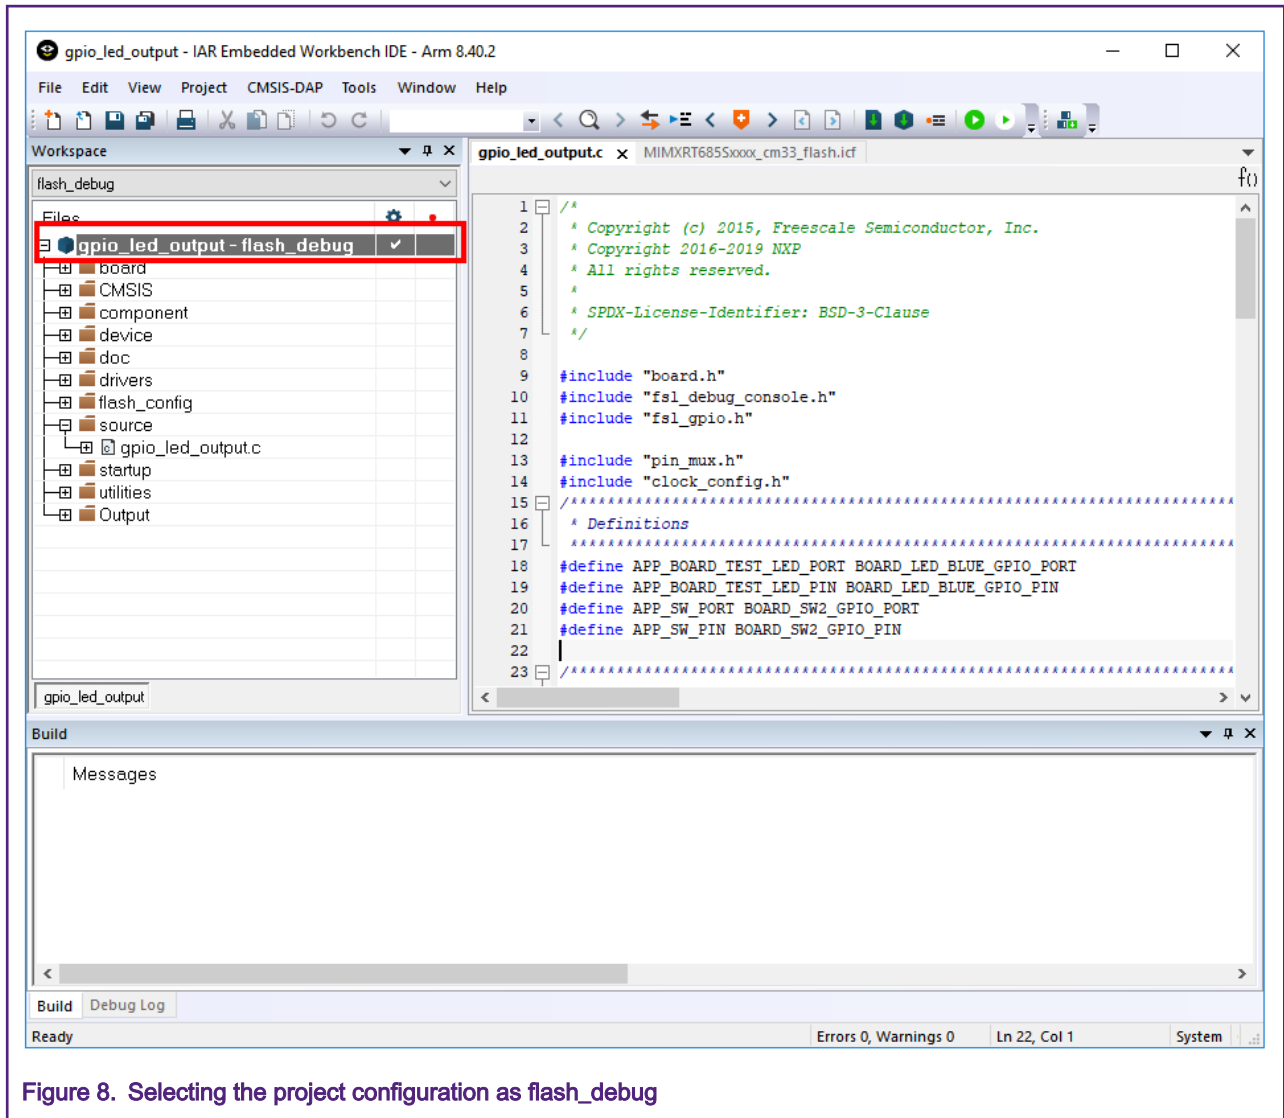

Figure 8. Selecting the project configuration as flash\_debug
1. Open the `\SDK_2.7.0_EVK-MIMXRT685\boards\evkmimxrt685\driver_examples\gpio\led_output` example and select the project configuration as `flash_debug`. The settings are as shown in Figure 8.